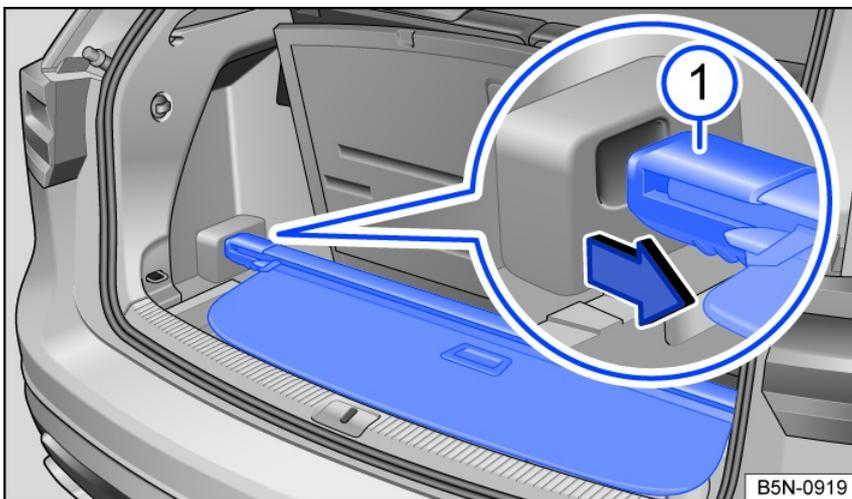

Fig. 151
- Insert the luggage compartment cover into the bracket designed for it *fig. 151*.